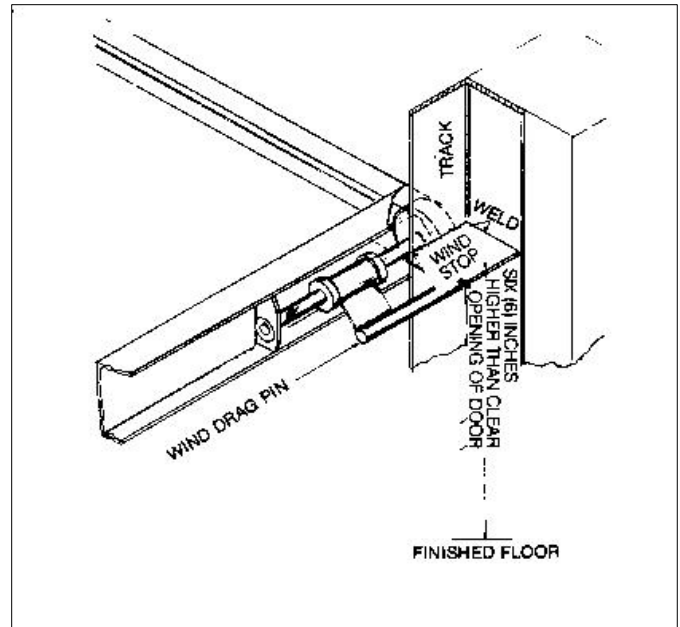

Figure 44 Wind lift stop
The door wind stops provided are 4" x 4" x 3/16" flat steel plates. Position each on back side of track flange that the door is rolling on so the wind drag pin on the door will catch the wind stop should a high wind lift the door when in an open position. This stop should be located six (6) inches above the clear opening design of the door and welded. See serial name plate on door for exact clear opening for your door. **SEE Figure 44 Page 30.**